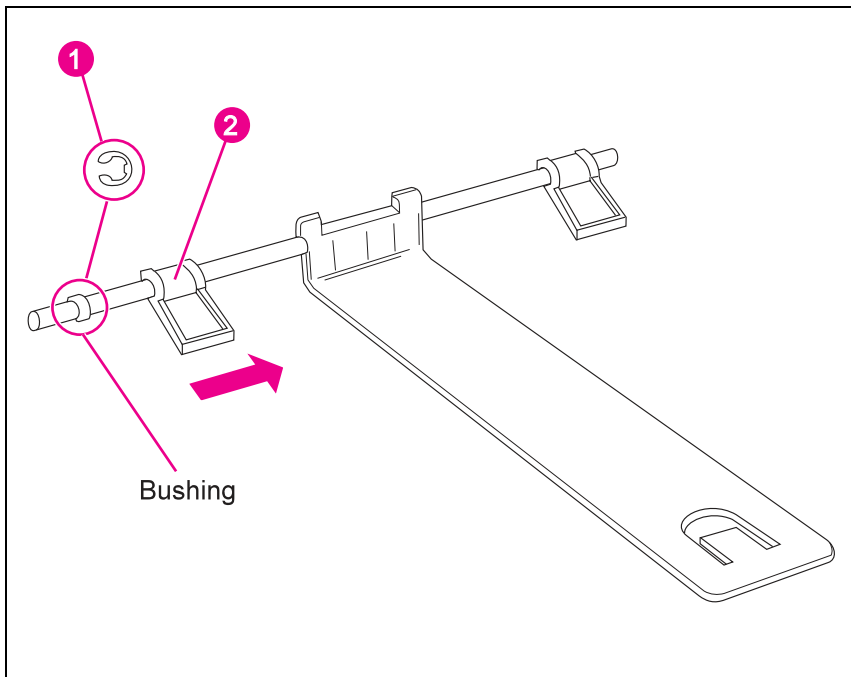

Figure 6-147 Latching Mechanism
- 2 Remove the E-clip in figure 6-147 (callout 1).